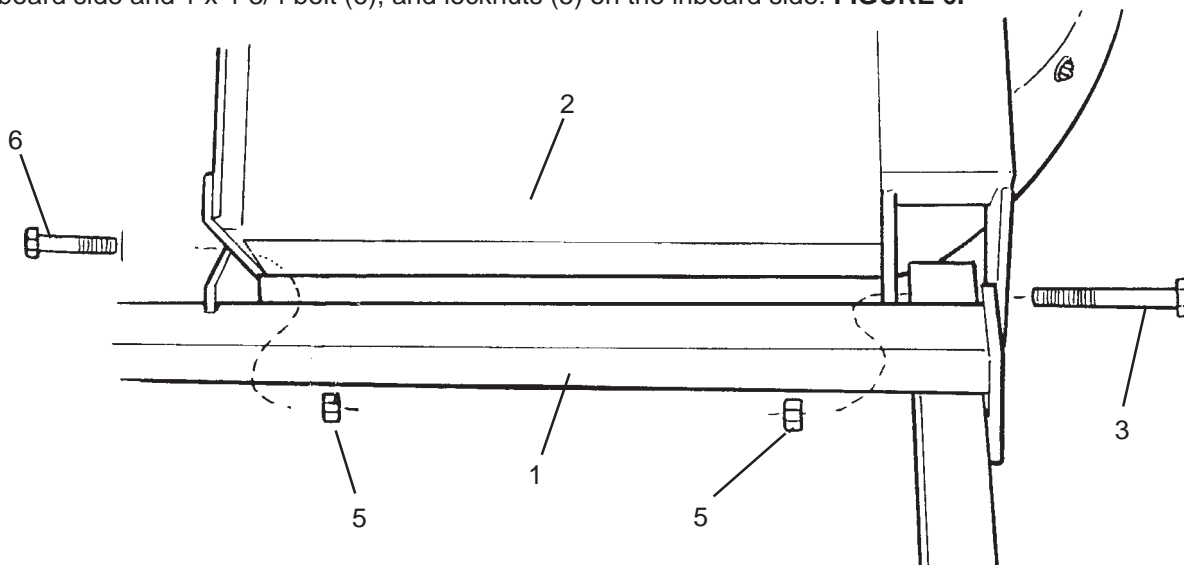

FIGURE 6. Wing Axle Attachment
Attach the Wing Axles (1) to the Wing Sections (2) with 1 x 7 bolts (3), flatwashers (4), and locknuts (5) on outboard side and 1 x 4-3/4 bolt (6), and locknuts (5) on the inboard side. **FIGURE 6.**